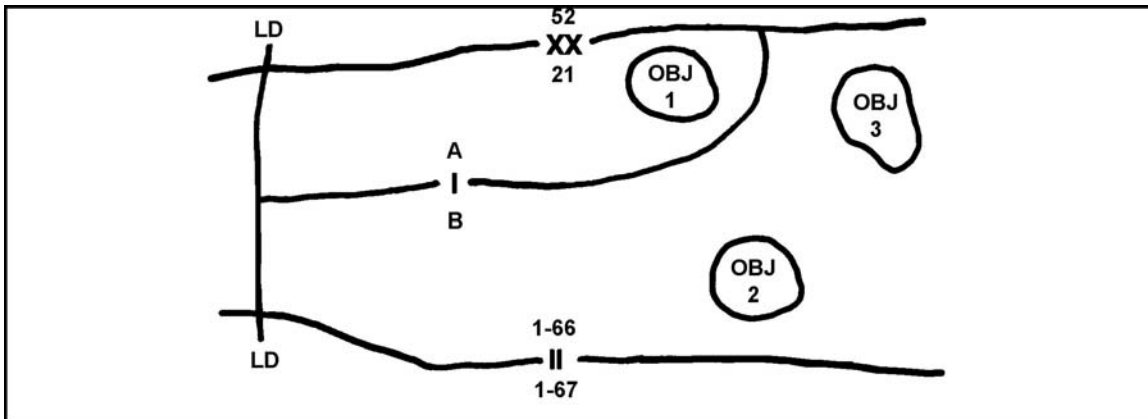

Figure 16. Pinching out a unit.
- (1) This type operation was indicated by drawing the boundary across the front of the unit, usually along a well-defined terrain feature such as a stream, ridge, or highway.
- (2) The following example indicates that Company A will be pinched out after seizing OBJ 1; Company B will seize OBJ 2 and continued the attack to seize OBJ 3 (Figure 16).